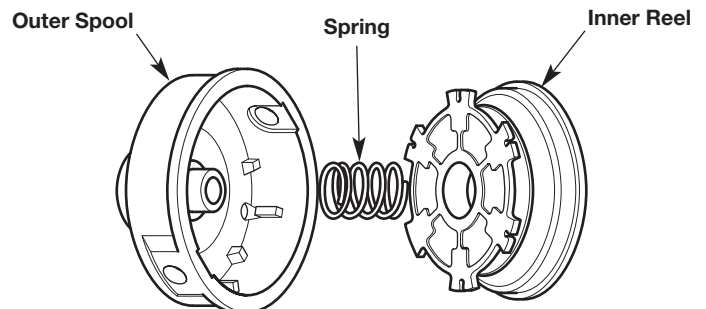

Fig. 18
- Remove the inner reel from the outer spool (Fig. 18).
- Remove the spring from the inner reel (Fig. 18).